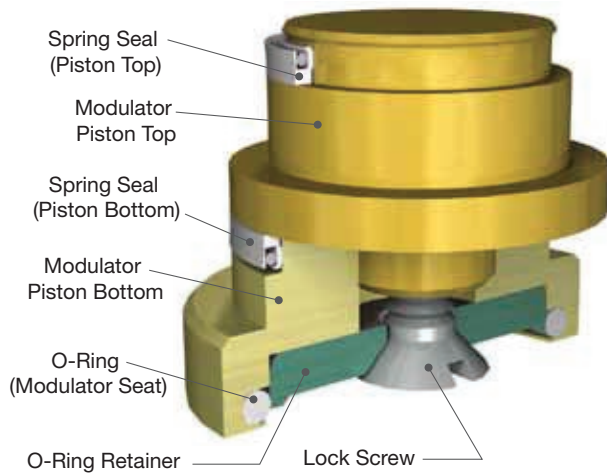

Figure 28:
8. Final Modulator Piston Assembly is shown in Figure 28.